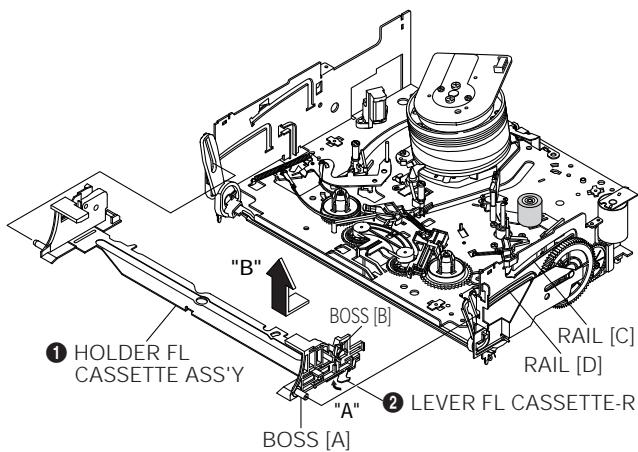

Fig. 1-6 Holder FL Cassette Ass'y Removal
- 2) Remove the Holder FL Cassette Ass'y. (Refer to Fig. 1-6)
- 3) Release the Hook ❶ in the direction of arrow "A", pull out the Lever FL Arm Ass'y ❷ from the Boss of Main Base.
- 4) Remove the Lever FL Arm Ass'y ❷ in the direction of arrow "B".
**Assembly** : When reinstalling, be sure to reassemble Lever FL Arm Ass'y ❷ after you insert the Boss ❷ in Groove [A] of Slider FL Drive ❸.